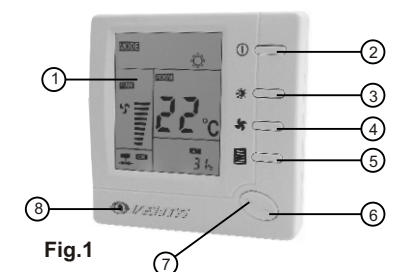
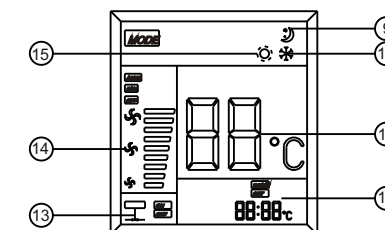

Fig.1
Fig.2
- Front panel (Fig.1)
- Display (Fig.2)
Press fan speed selection button. On the display, one of the characters (14 in Fig.2) will appear or AUTO. This means that fan will rotate at HI (high), MED (medium), or LOW (low) speed or in AUTO (automatic mode). If AUTO mode is selected, fan rotation speed will change, depending on difference between actual temperature in premise and set temperature. If temperature in the premise is by more than 3 degrees higher than set temperature during cooling and by more than 3 degrees lower than set temperature during heating, fan will operate at the highest speed. If temperature in the premise is by 2-3 degrees higher than set temperature during cooling and by 2-3 degrees lower than set temperature during heating, fan will operate at medium speed. If temperature in the premise is by 0-1 degrees higher than set temperature during cooling and by 0-2 degrees lower than set temperature during heating, fan will operate at low speed.
Using mode selection button, select heating mode (15 in Fig.2).
Using mode selection button, select cooling mode (10 in Fig.2).
Press "night" mode selection button (5 in Fig.1). Symbol of "night" mode (9 in Fig.2) will appear. This mode will be active during 8 hours, at that, heat regulator will control heating or cooling according to the chart (see below). Press "night" mode selection button once more, appropriate symbol will disappear; this means cancellation of "night" mode operation.
Switch off heat regulator, pressing "power" button, then press and hold "night" mode selection button (5, Fig.1) at least 4 seconds until the display switches on. This means that you have entered the first menu option of setting mode. There are 4 menu options, that is represented on the display. Selection of appropriate menu option is made by pressing (5) button. In each menu option, press "+" or "-" button to change settings. To quit the menu and return to normal operation mode, switch off heat regulator, pressing "power" button and, then, switch it on again.